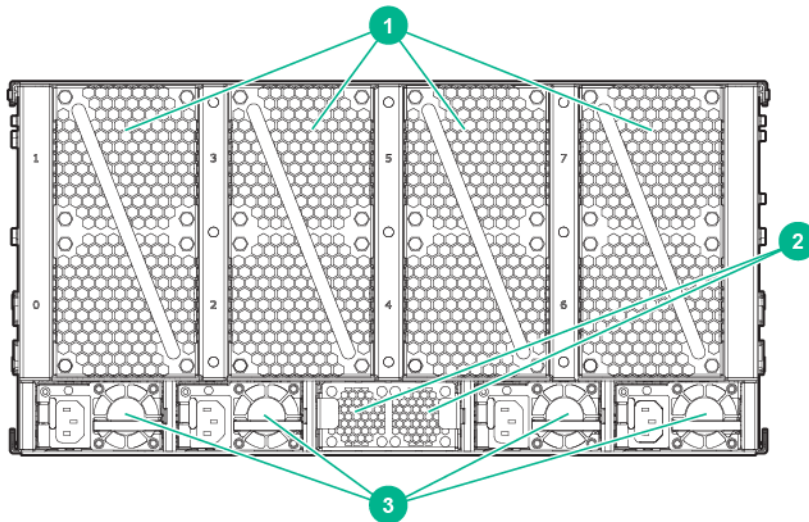

Figure 17: MC990 X server chassis power supply and fan locations
1. Open the rear door of the rack and locate the power supply that needs replacement. The power supplies are located along the bottom section of each MC990 X server chassis, see **Figure 17: MC990 X server chassis power supply and fan locations** on page 46 for an example.
Chassis cooling for each MC990 X server chassis is provided by four rear-mounted fan assemblies (as seen in **Figure 17: MC990 X server chassis power supply and fan locations** on page 46). Each chassis cooling fan unit is made up of two stacked 80mm fans.